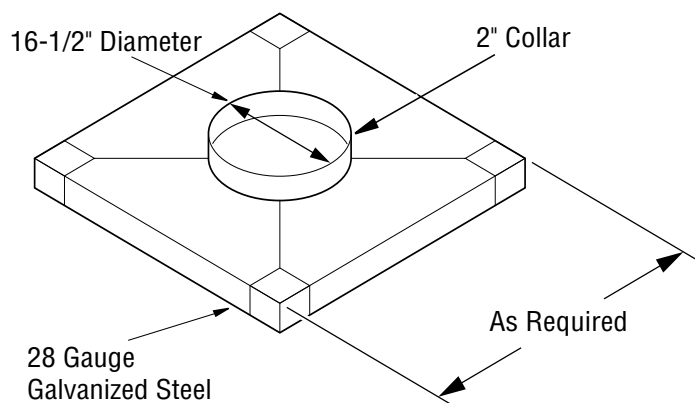

Figure 26 - Constructing Chase Top Flashing
- Fabricate a flashing having a 16-1/2" diameter hole centered over chimney end with a 2" collar around hole (see Figure 26, page 15).